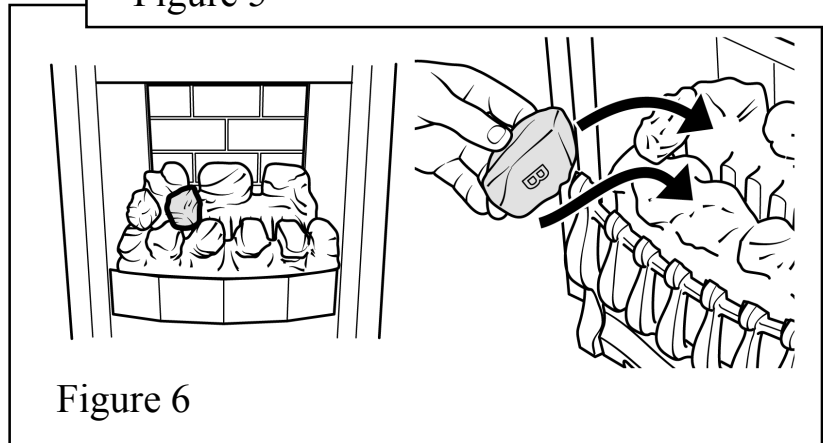

Figure 6
4. Place a type "B" coal between the front and rear base coals as shown in figure 6. The letter "B" should be upright.